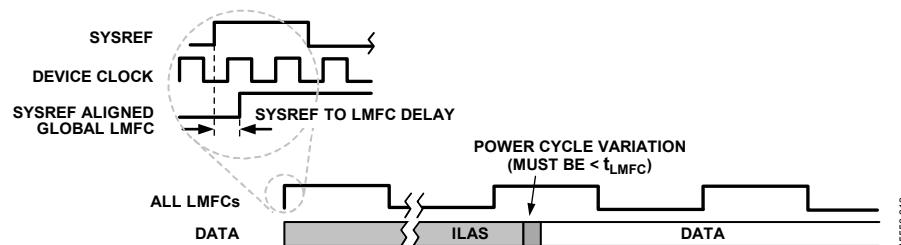

Figure 143. SYSREF and LMFC
The JESD204B protocol organizes data samples into octets, frames, and multiframe as described in the Transport Layer section. The LMFC is synchronous with the beginnings of these multiframe. In Subclass 1 operation, the SYSREF signal synchronizes the LMFCs for each device in a link or across multiple links (within the AD9689, SYSREF also synchronizes the internal sample dividers), as shown in Figure 143. The JESD204B receiver uses the multiframe boundaries and buffering to achieve consistent latency across lanes (or even multiple devices), and to achieve a fixed latency between power cycles and link reset conditions.
- The total latency variation across all lanes, links, and devices must be  $\leq 1$  LMFC periods (see Figure 143). This includes both variable delays and the variation in fixed delays from lane to lane, link to link, and device to device in the system.